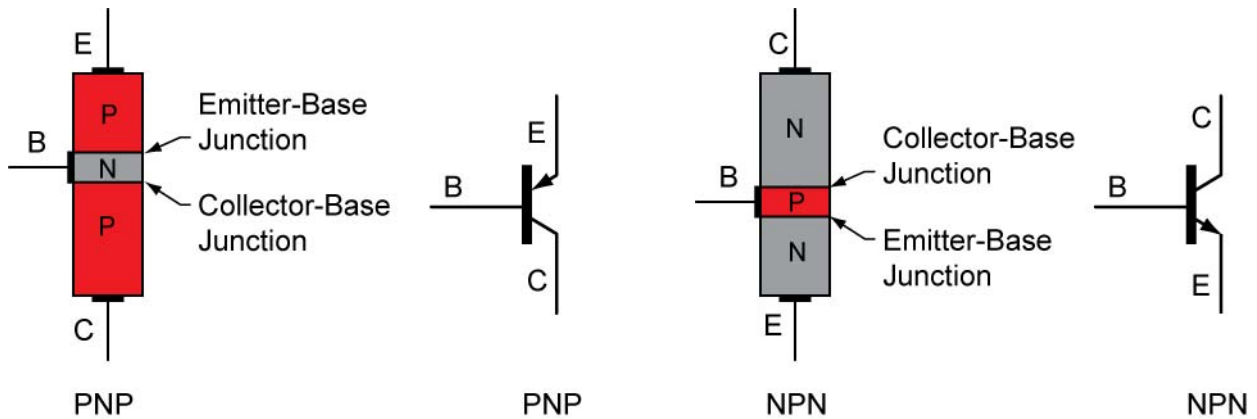

Figure 13: Transistor Construction with Three Doped Regions and Matching Symbols
- A transistor is made of three doped regions. Figure 13 represents a PNP transistor and an NPN transistor construction. For both types of transistors, the narrow base region is sandwiched between the collector and emitter regions.